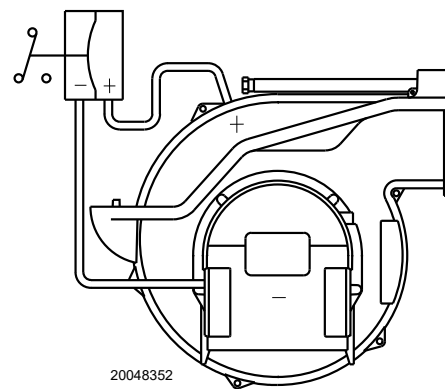

Fig. 50
- adjust the air pressure switch to the zero position of the scale (Fig. 50, page 36);
The air pressure switch is connected in differential (Fig. 50) and is activated by both the negative pressure of the air intake and the air pressure from the fan.